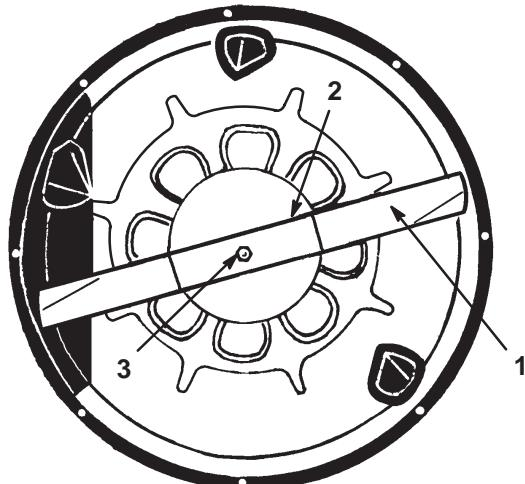

Figure 29
6. Grasp the end of the blade using a rag or thickly padded glove. Then remove the blade bolt, curved washer, blade stiffener, and blade (Fig. 29). A block of wood may be wedged between the blade and the mower to lock the blade when you are removing the bolt.
- Install the blade, blade stiffener, curved washer, and blade bolt (Fig. 29).